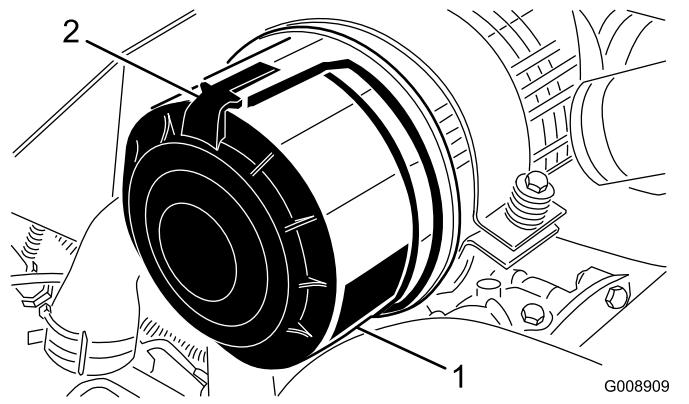

Figure 45
1. Release the latches securing the air cleaner cover to the air cleaner body (Figure 45).